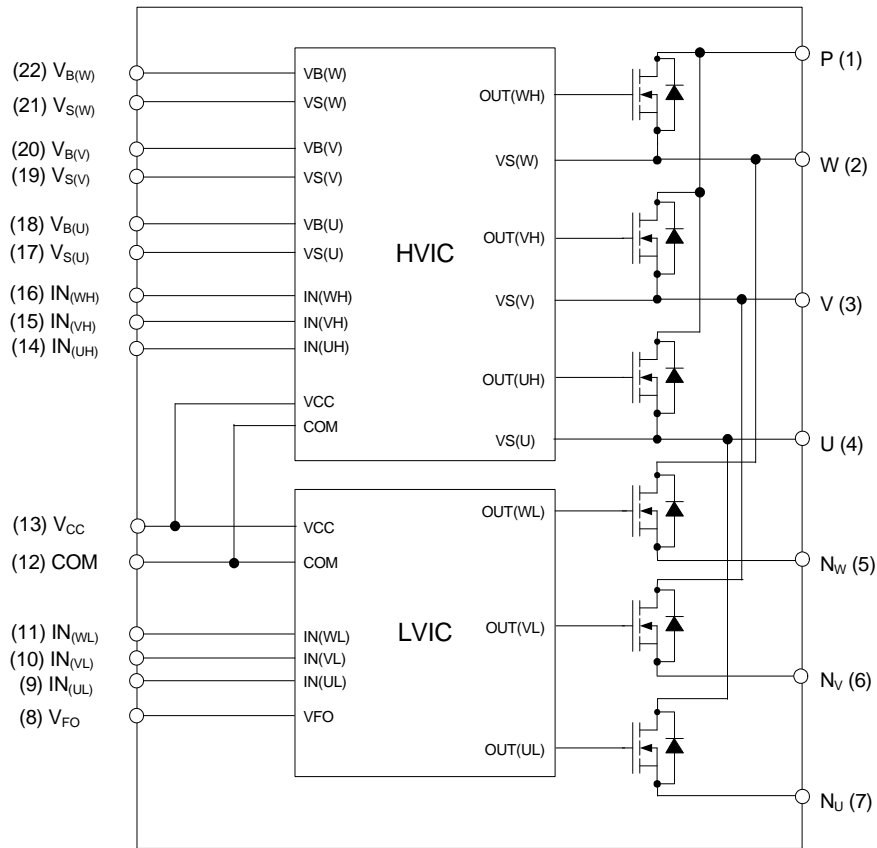

Figure 3. Internal Block Diagram
- 40 V $R_{DS(ON)} = 2.5 \text{ m}\Omega$ (typ.) inverter for three-phase DC / AC power conversion (please refer to Figure 3)